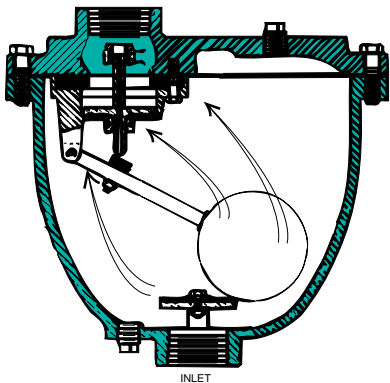

Figure 2. Air Exhausted During Pipeline Fill
1. During System start-up, the open valve will exhaust large quantities of air until fluid enters the valve. The float will then rise and press the orifice button located in the float arm, against the plug stem and raise the plug. Pressure within the valve body will force the plug upward tightly against the seat. See Figure 2.